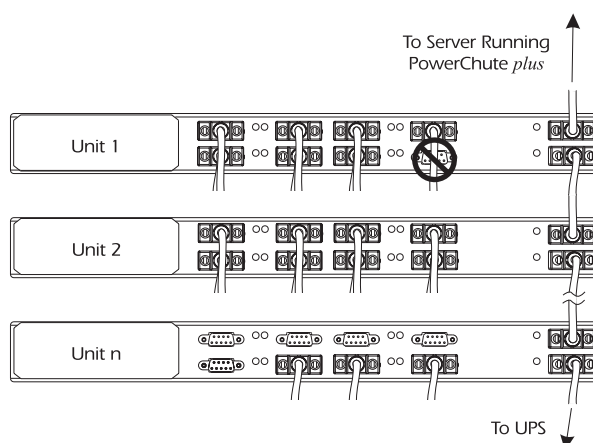

Figure 2: Example of a Cascading Setup for Unattended Shutdown
By cascading as many as four MasterSwitch Plus units, you can manage power for up to 32 connected devices. To set up MasterSwitch Plus in a cascading configuration, refer to Figure 2 and see “Procedure for connecting multiple units” on this page.
- 4 Using the supplied daisy-chain cables (APC part number 940-1000), connect the To UPS port of each MasterSwitch Plus unit to the Advanced port of the succeeding unit, as directed in Figure 2: "Example of a Cascading Setup for Unattended Shutdown" on page 8.